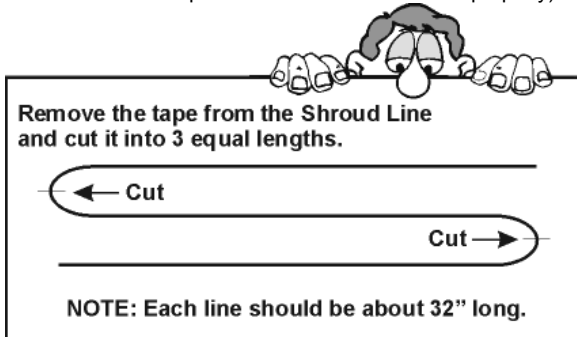

Figure 16
16. Locate the white cotton **Shroud Line** (it is the bundle of white string held together with tape). Carefully remove the tape and unravel the thread without tangling it. Referring to **Figure 16**, cut this thread into 3 equal length shroud lines, each about 32" long. **ADULTS** may wish to help with this step. (**Thing-a-ma-FACT: Shroud Lines** are the lines that connect to the parachute to make it function properly).